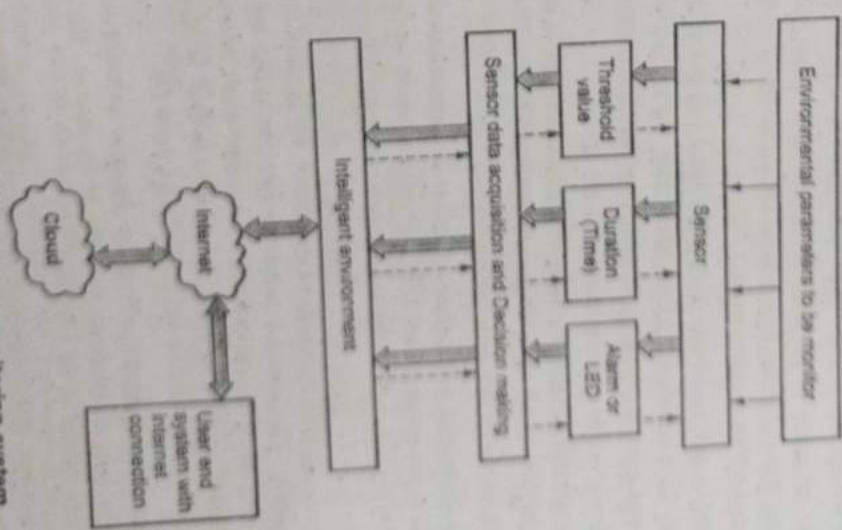

Fig. Q.9.1 Air pollution monitoring system
- Fig. Q.9.1 shows air pollution monitoring system.